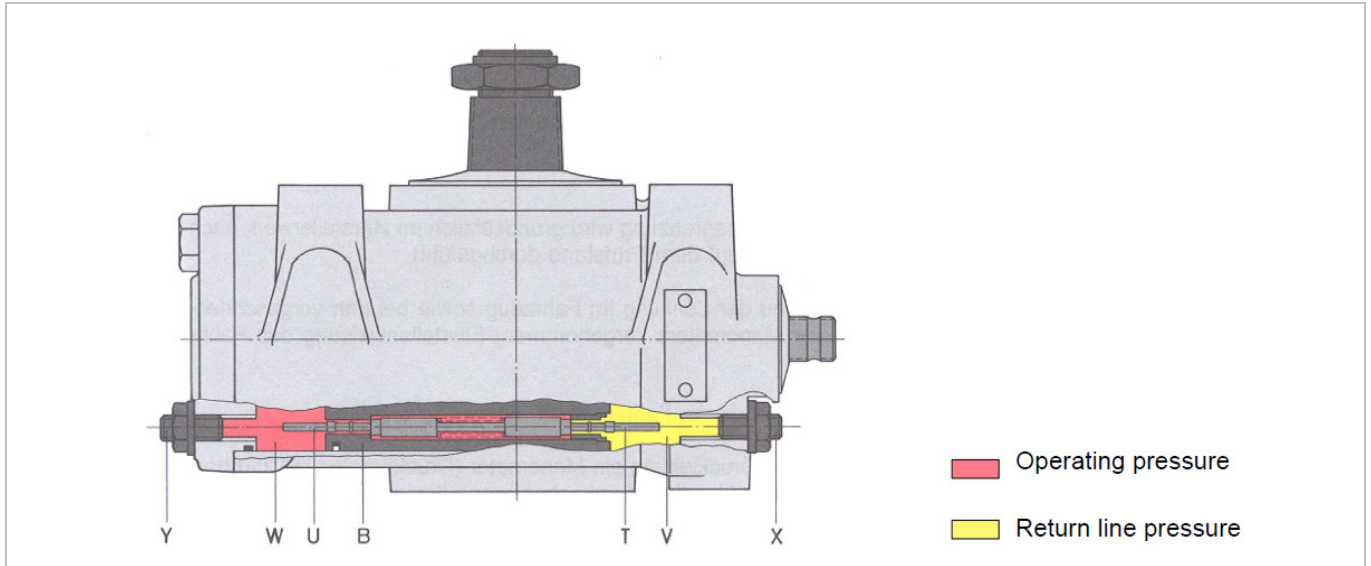

Fig. 4: Steering limiting valve closed
The hydraulic steering limitation prevents a steering to the lock stops at full hydraulic pressure. It, thus, protects the pump and the steering linkage and prevents high oil temperatures. A double-acting steering limiting valve with spring-loaded valve pins (T and U) is arranged in the longitudinal direction in the piston (B). The valve pins project over the right-hand and the left-hand front faces of the piston (Fig. 4).